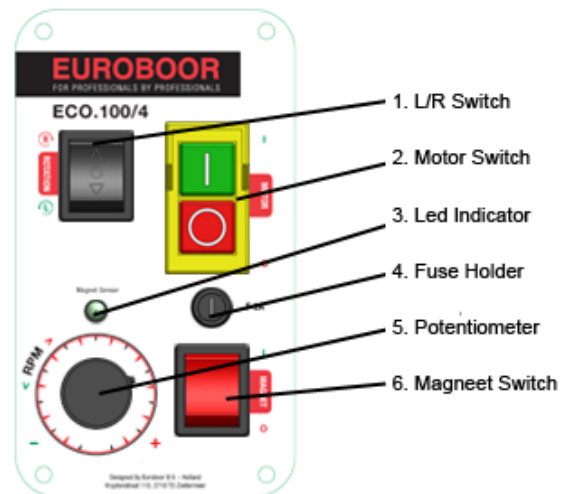

Fig. 2
Connect the machine to the mains/work piece. To activate the magnet, press the red button (Fig. 2 – 6). The switch will be lit (red). The LED indicator (Fig. 2 - 3) will be lit GREEN if generated magnetic force is sufficient. When LED indicator turns RED there is not enough magnetic force and it is not safe to work. To deactivate the magnet, press the same button (Fig. 2 - 6) again.
The motor unit can only be switched ON when the magnet is activated. To turn the motor ON, by pressing the green button with marking "I" (Fig. 2 - 2). To switch the motor OFF, press the red button with marking "O" (Fig. 2 - 2).
- Switch off the machine (Fig. 2 - 2) and change the cutter for the tap collet and the machine tap;
- Select the lowest gear (Fig. 4) and speed (Fig. 2 - 5) and set the direction of rotation to clockwise (right = R) at switch (Fig. 2 - 1);
- Switch on (Fig. 2 - 2) the machine and set the machine tap onto the drilled hole;
- Switch off (Fig. 2 - 2) the machine and set the direction of rotation to anti-clockwise (left = L) at switch (Fig. 2 - 1).
- Switch on the machine (Fig. 2 - 2) again and allow the machine tap to come completely out of the work piece. Then guide the machine slide upwards at handle to avoid damaging the start of the thread.